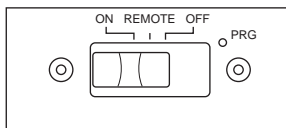

Figure 30 - Remote Selector Switch in ON Position
10. Wait one minute and switch selector switch to the ON position to light burners (see Figure 30). When using in the ON position (without remote) burners will light on high. There is no adjustment to the flames without using remote.